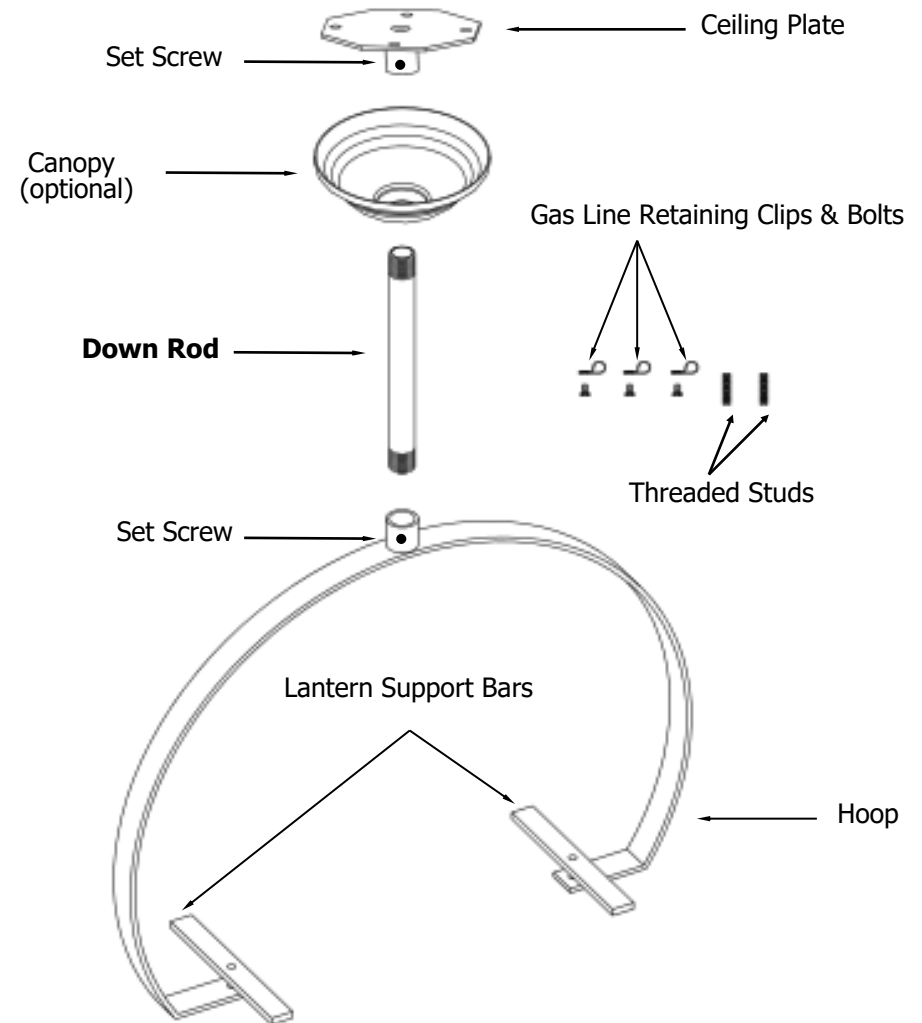

Fig. 1
- Remove yoke from packing and assure that all of the parts in figure 1 are included in the parts bag.
1. Remove the bottom scroll from packing and locate the item shown in figure 1.